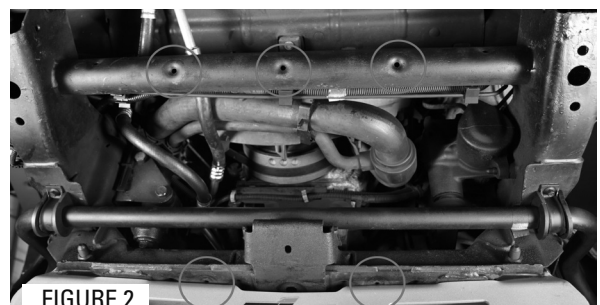

FIGURE 2
- 2 Under the truck, remove plastic engine shield located near front bumper by removing the five hex bolts using a 13mm wrench or socket. (Figure 2)